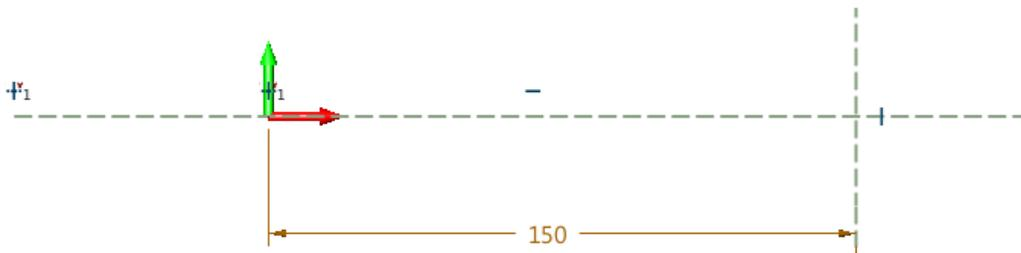

Figure 100 Construction Geometry
STEP 03 Draw a vertical construction line and set the distance between the line and the origin as 150 (mm), as shown in Figure 100.